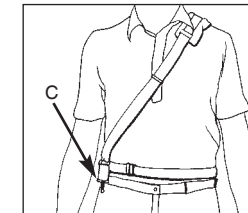

Fig. 8A
2. Attach the harness clip (C) to the ring (D) mounted on the shaft (Fig. 8A and 8B and 8D).